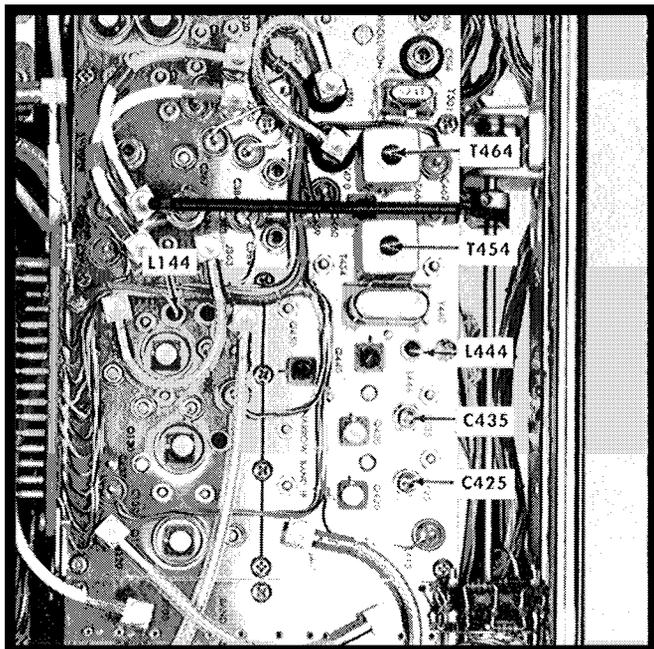

Fig. 6-24. Location of narrow band IF amplifier adjustments.
d. Adjust L444 (wide band amplifier), T464, T454, C435 and C425 (Fig. 6-24) in the order listed for optimum signal amplitude.